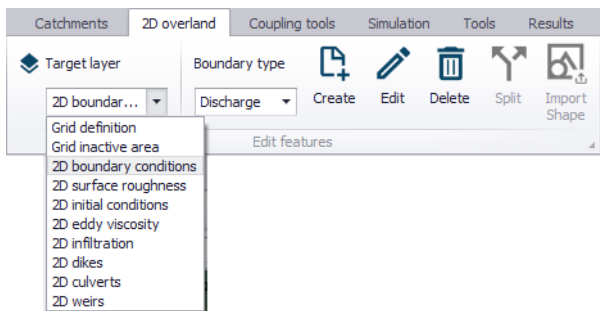

Figure 3.11 The Edit Features toolbox on the 2D Overland menu ribbon
Define arcs and polygons on the Map using the Flooding Layer Editing toolbar (Figure 3.10) or the Edit Features toolbox on the 2D Overland menu ribbon (Figure 3.11). Select 'Mesh arc' as the target layer from the toolbar and use the 'Create' tool to draw arcs on the map.
- **Polygons.** Define inactive polygons on the Map using the Flooding Layer Editing toolbar (Figure 3.10) or the Edit Features toolbox on the 2D Overland menu ribbon (Figure 3.11). Select 'Grid inactive area' as the target layer from the toolbar and use the 'Create' tool to draw polygon features on the map.